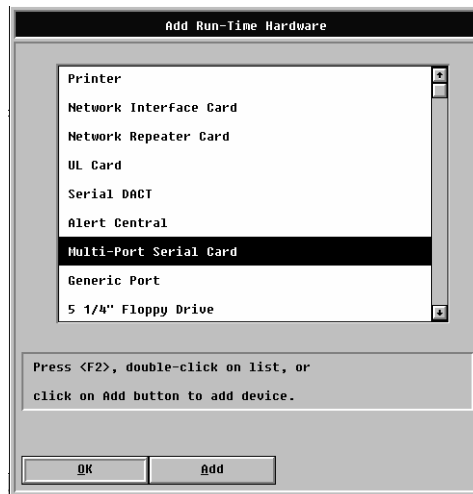

Figure 3-3. Add Run-Time Hardware Dialog
3. Check the current hardware settings. To change a specific hardware setting, highlight the setting with your mouse and double click or use the **Up** and **Down** arrow keys to highlight the setting you wish to change and press **F2**. The system displays the Add Run-Time Hardware dialog shown in Figure 3-3.